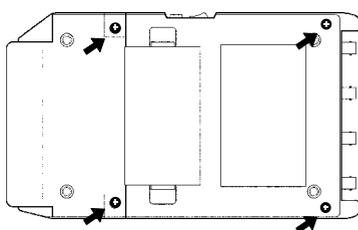

Figure 1
2. Remove the four screws which is holding on the rear panel with a Phillips screwdriver (see Figure 1). And remove the printer instrument connecting portion.